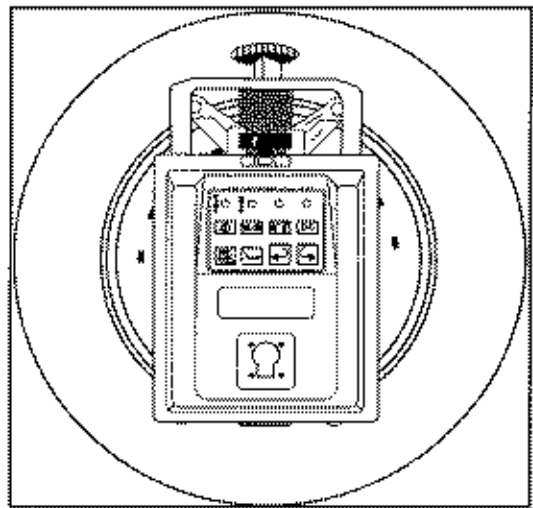

Figure 1-7
2. Slide the wheel units onto the wheel clamp spindles as shown in Figure 1-7 below (the figure shows a rear wheel unit, only).